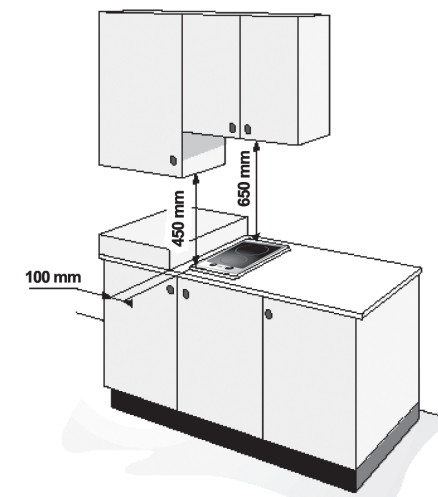

Fig. 2
- If the hob is to be installed next to a column unit, leave a distance of at least 100 mm from the edge hob. (Fig. 2)